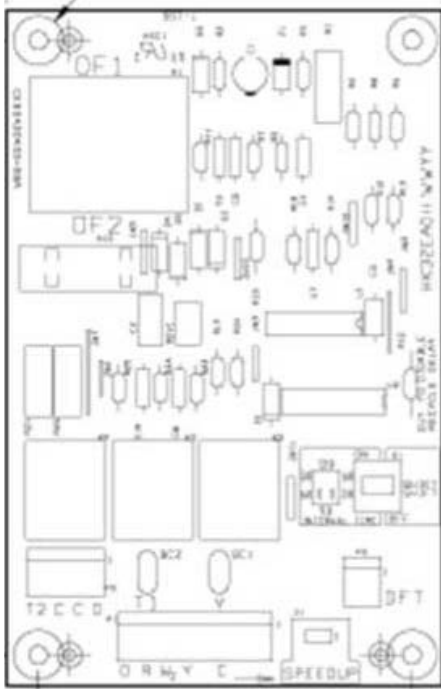

Fig. 14 – Defrost Control
4. Jumper between DFT and R terminals on control board as shown in Fig. 14.